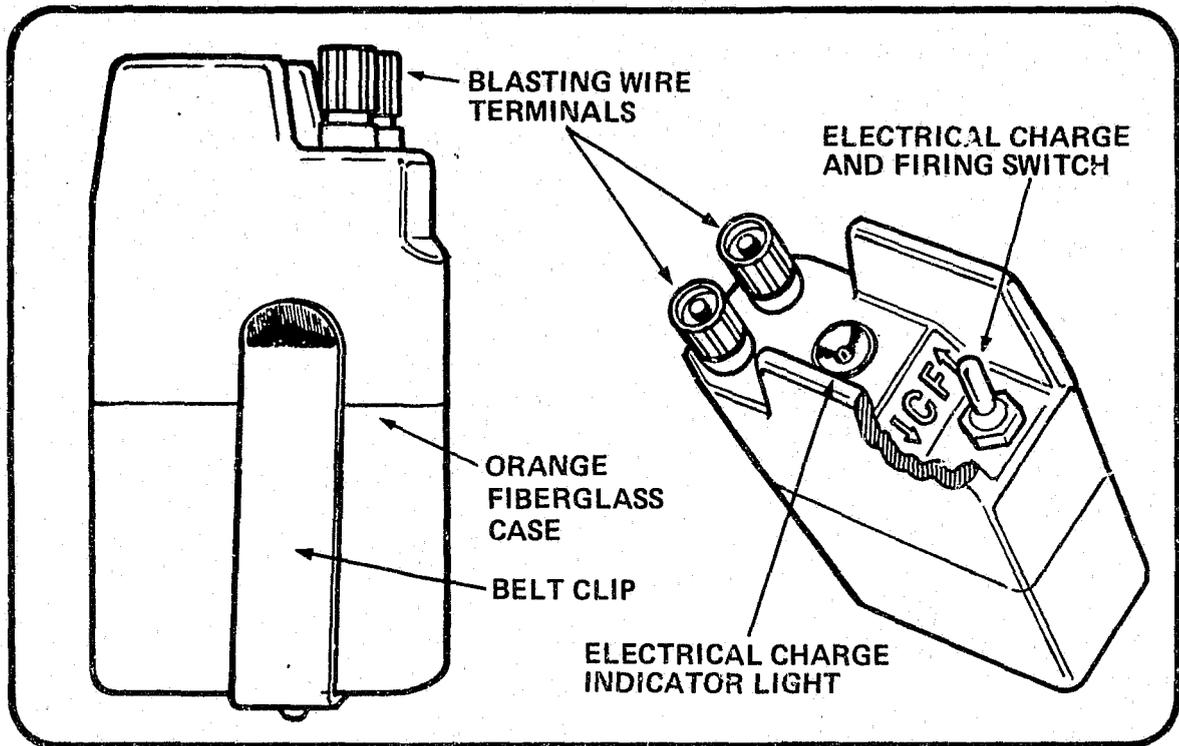

Figure 65
**Mini-Blaster.** The Mini-Blaster is a battery operated blasting machine slightly larger than a pack of cigarettes and weighing only 15 ounces. It measures 4 1/4 by 2 3/8 by 1 3/8 inches. The electrical output is 1 1/2 amps for 10 msec at 20 ohms resistance, which allows it to fire 20 electric blasting caps in series. The electrical power source is two 22 1/2-volt photoflash batteries. The Mini-Blaster, illustrated in figure 65, has an orange fiberglass reinforced case, a waterproof firing switch and a yellow "fire ready" indicator light. This small compact blasting machine will fire over 10,000 individual shots without requiring a battery change and is used in all types of explosive work. The Mini-Blaster is manufactured by Explosives Corporation of America, Ex. oa Building, Issaquah, Washington 98027.